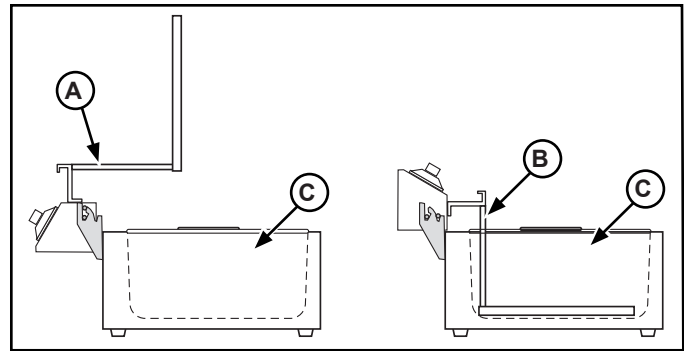

Figure 2. Hinge Positions.
4. Rotate the fryer head to the up position (A). See Figure 2.
5. Carefully remove the well(s) (C) from the unit and filter or discard used oil.